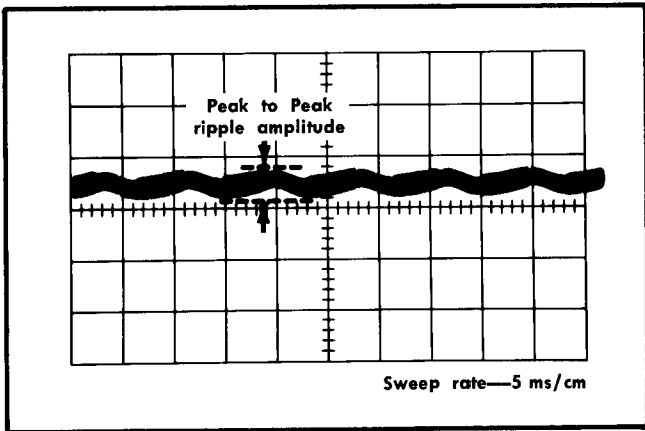

Fig. 7-7. Typical ripple display for checking power-supply regulation.
- Check for — Test oscilloscope display of power-supply ripple with line frequency ripple amplitude (see Fig. 7-7) not exceeding the maximum value given in Table 7-2.